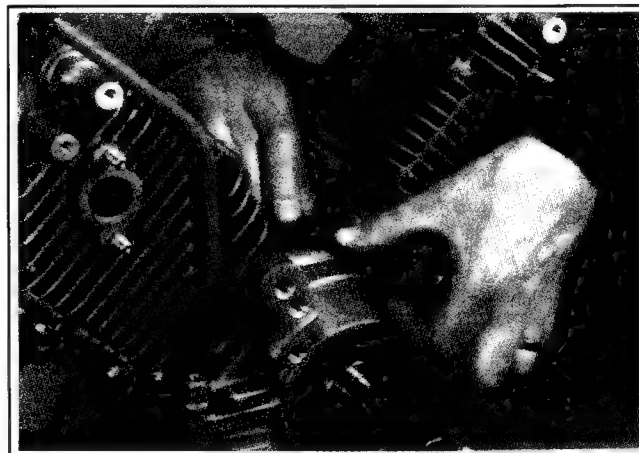

Figure 11-18. Installing New Grommet in Crankcase.
1. Install a new breather grommet in crankcase. See Figure 11-18.